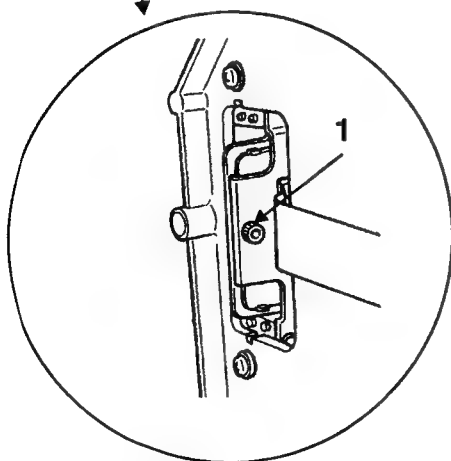

Figure 3
2. Loosen screws "1" and "2" on the B panel. (Refer to Fig.3 and 4)